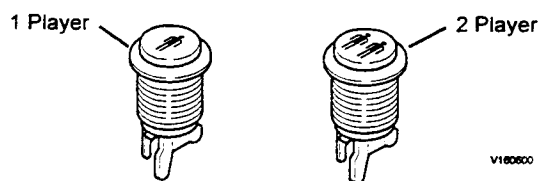

Figure 2: Start Buttons
15. Notice that there are two white buttons. See Figure 2. The WHITE buttons are START buttons. Install the PLAYER ONE button on the top left-hand side of the control panel, and the PLAYER TWO button on the top right-side of the control panel.
17. Install the switches on the buttons as shown in Figure 2. Orient the switches so that when a button is pressed, the red contact on the switch is depressed.